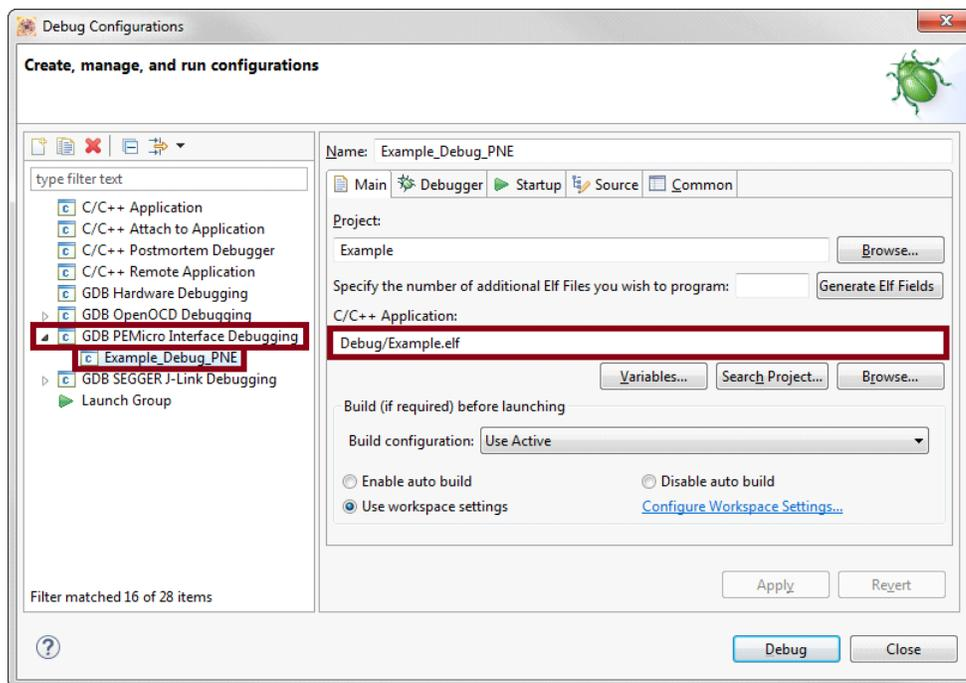

Figure 16. Downloading the application (a)
2. In the **Debug Configurations** dialog box, click **Example\_Debug\_PNE** under **GDB PEMicro Interface Debugging** (see Figure 16).
3. Make sure that **C/C++ Application** contains the path to the .elf file of the project (see Figure 16).